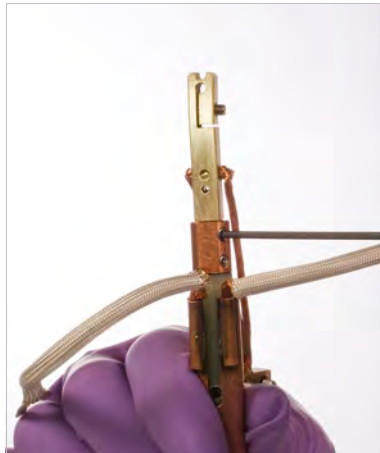

FIGURE 5-18 Secure the probe mount to the probe arm
3. Using the 1.5 mm hex driver, secure the probe mount to the probe arm by tightening the probe arm set screws (FIGURE 5-18).